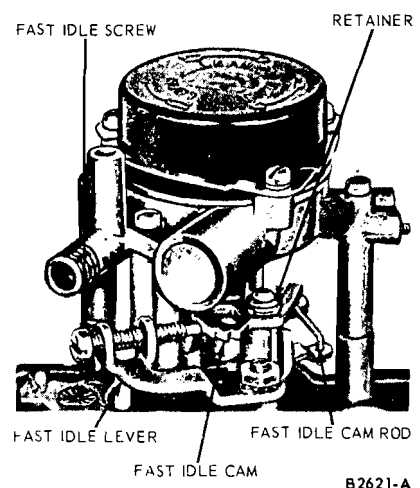

FIG. 13—Fast Idle Cam and Fast Idle Lever
1. Remove the fast idle cam retainer (Fig. 13).
2. Remove the thermostatic choke spring housing retaining screws, and remove the clamp, housing and gasket (Fig. 13).
11. If necessary, remove the idle (hot engine) adjusting screw and spring, and the nut and washer securing the fast idle adjusting lever assembly to the primary throttle shaft (Fig. 13). Remove the lever assembly.